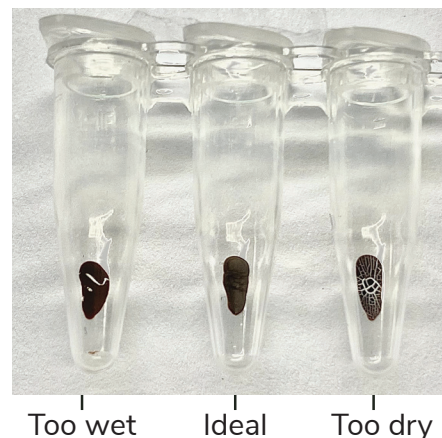

FIGURE 11
61. Remove tubes from magnet. Air-dry, caps open, 2-3 min at RT. Beads should be damp matte brown (Figure 11). If beads are crackly and/or light brown, they are too dry.